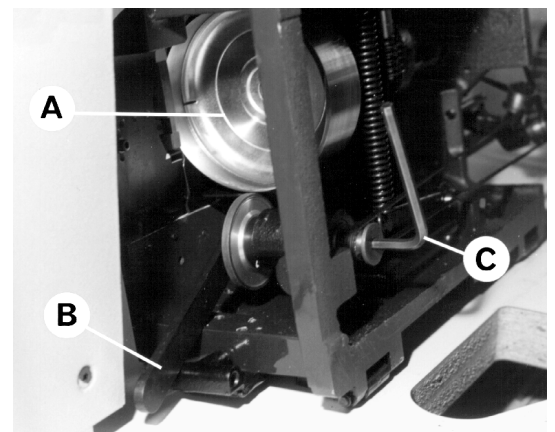

Fig. 7 - Blade and grindstone replacement
To remove the dome (Fig. 7- A) screw the special extractor pin in the threaded hole and extract the dome, outwards.
- Insert the Allen spanner into the grindstone shaft (Fig. 7 - C).
- Insert the spanner with two pins (Fig. 7 - B) to block the grindstone nut.
- Turn the spanner in an anticlockwise direction (Fig. 7 - C) holding the spanner still (Fig. 7 - B)